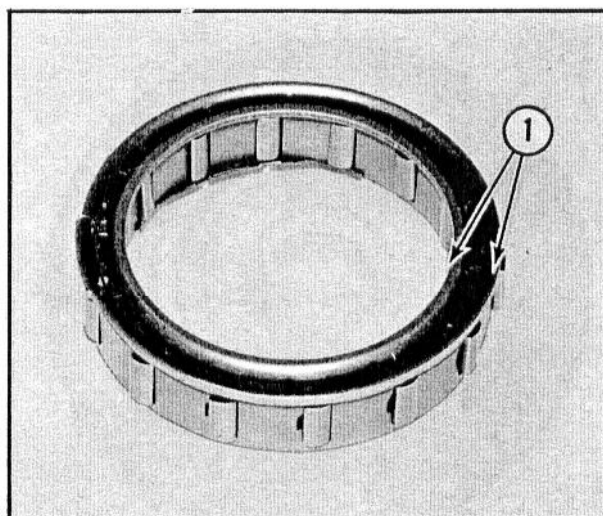

Fig. 11 — Sprag Assembly
6. Install the sprag unit into the outer race so that the flanged side, or side marked "FRONT", is up. See Figs. 11 and 12.